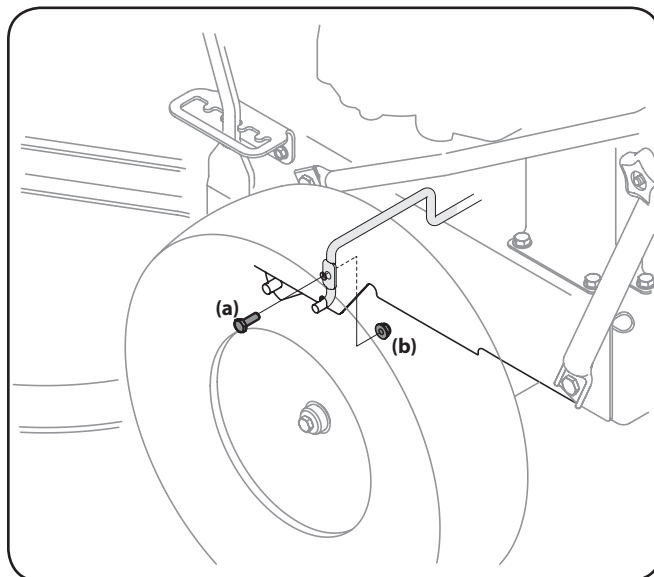

Figure 7-2
5. Remove the screw (a) and flange nut (b) which secures the belt keeper rod to the left side of the mower's frame. See Figure 7-2.
3. Remove the belt keeper as instructed in Step 6 of Cutting Deck Removal on page 22. See Figure 7-2